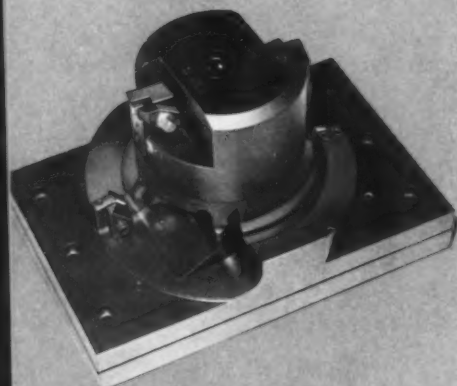

FIG. 2
**FIG. 2**—Just four identical throw-away tips, 1/2 inch square, plus one diamond shaped throw-away tip in this tool do all these things on large special pipe couplings: (1) taper bore; (2) relieve; (3) face the end; (4) chamfer the ID; (5) chamfer the OD. Combining these in a single tool has tripled productivity.